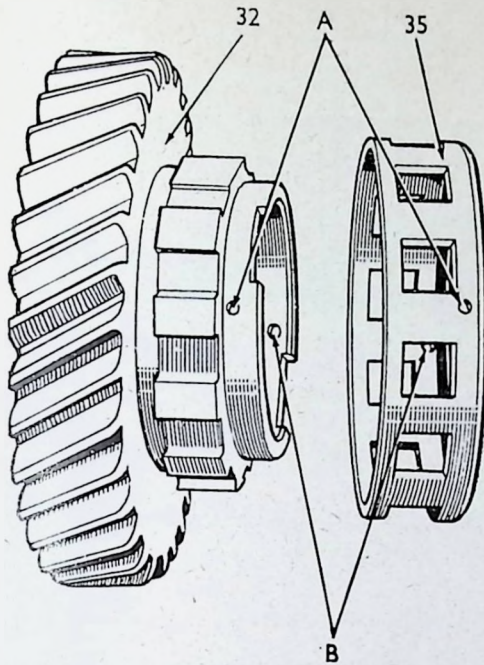
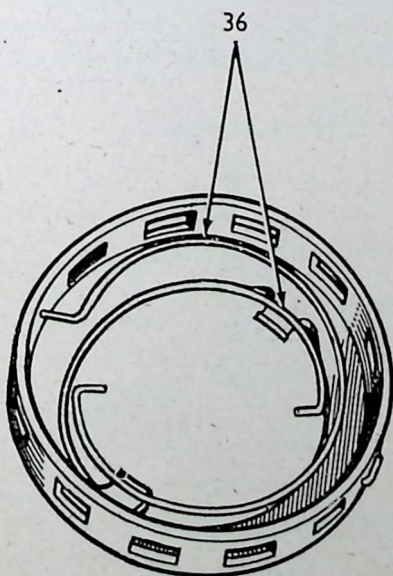

FIG. 41.—Freewheel spring holes.
FIG. 42.—Freewheel roller cage and springs.
Two pairs of radially-drilled holes are provided in the combined low gear and freewheel hub (32, Fig. 41) and in the roller cage (35) to locate the two springs (36); these holes are drilled at different levels in each compartment and will be referred to as "A" and "B", "A" being the pair of holes nearer the front of the gearbox when assembled. Thus the springs lie side by side when in position. Insert the Z-shaped ends of the springs (36, Fig. 42) into the holes in the cage (35) and lay the springs so as to run clockwise from these ends. Holding the cage and springs between finger and thumb with the thumb over hole "A" and the springs held clear of each other with spring "A" upwards, turn the cage over and enter the